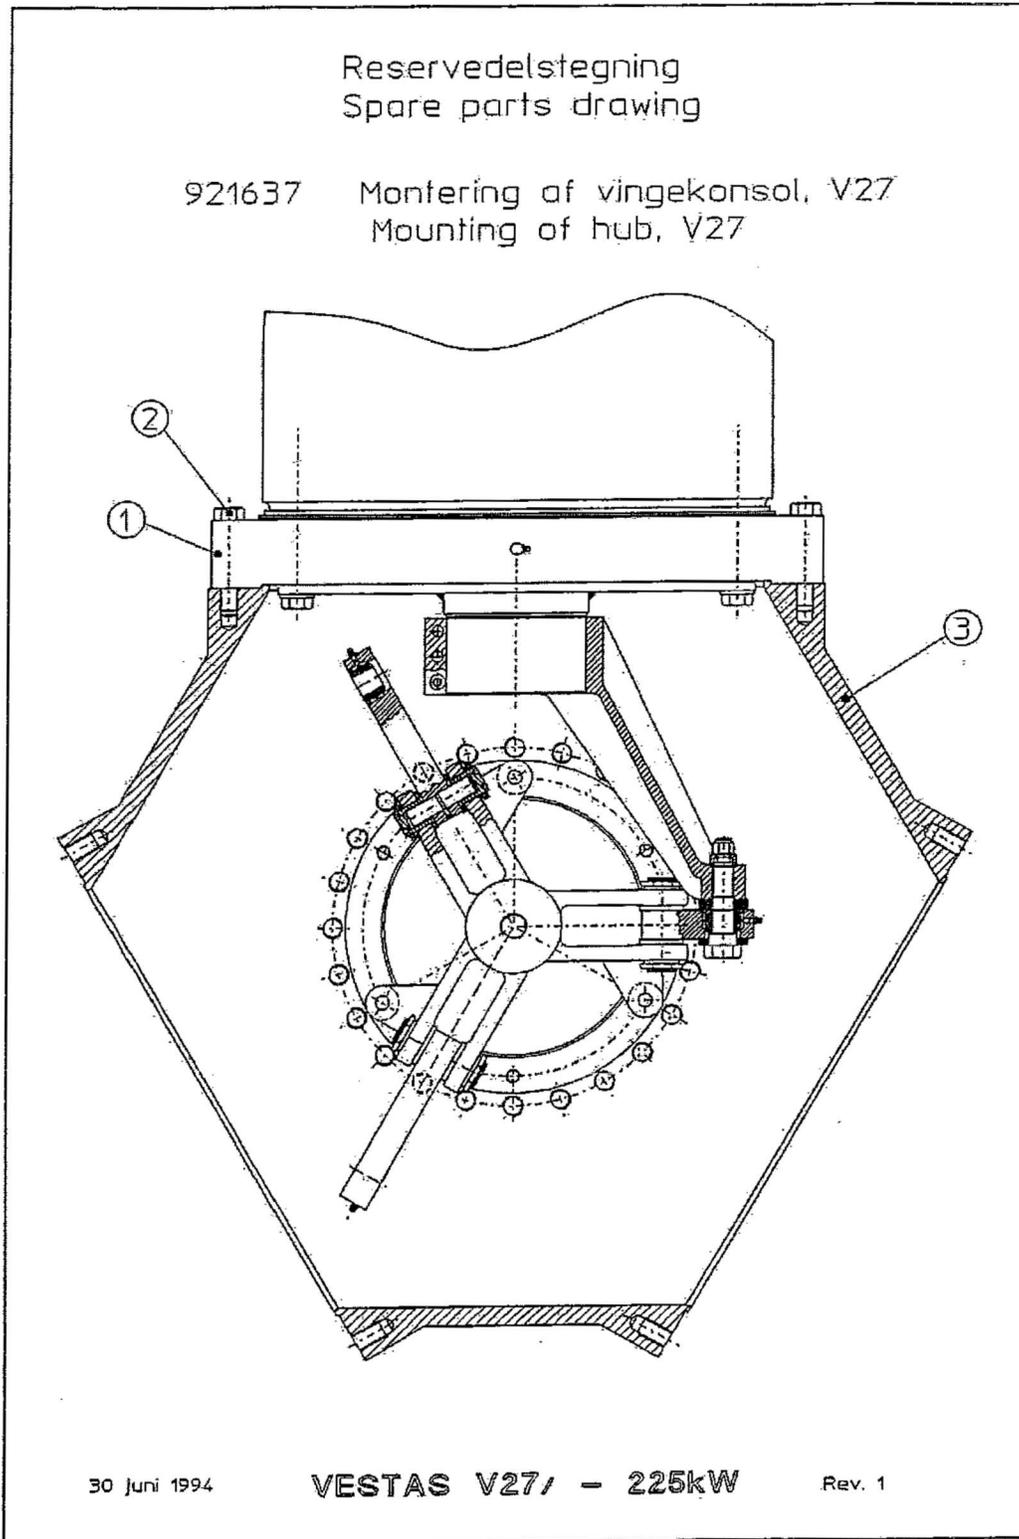

Figure 4-7. Spare parts drawing, mounting of hub
**Refer to** Figure 4-7 and 4-8
**Refer to** Figure 4-7
1. Lubricate the three bolts between the slewing ring and hub (pos. 2, Figure 4-7).
**Refer to** Figure 4-7 and 4-8.
4. Hoesch Rothe Erde Bearings the protection disc./O-ring is removed at the filling plug of the bearing (see Figure 4-7).
**Refer to** Figure 4-7, 4-9, 4-10, 4-11, 4-12, and 4-14
5. **Bolt in crank, Type 1 (as needed):** This M24 special bolt is locked with Loctite when the rotor is mounted (pos. 1, Figure 4-7). The bolts need not be checked unless you have a suspicion that they might be loose or in connection with a special torque inspection. Proper torque is 400 Nm (295 ft.-lbs.). If it is possible to turn the bolt, it must be replaced with a new bolt of Type 2 (see Step 6).